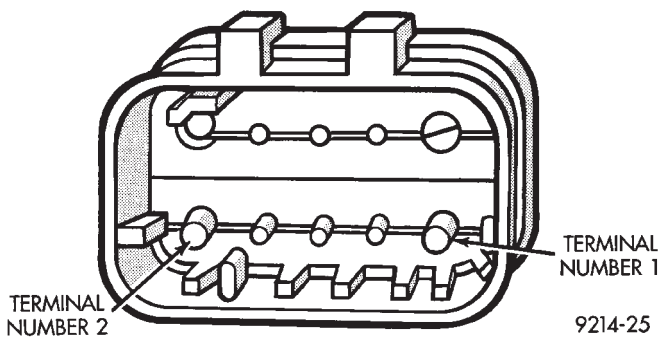

Fig. 3 Injector Harness Connector
- (1) Loosen fuel filler cap to release fuel tank pressure.
- (2) Disconnect injector wiring harness from engine harness (Fig. 3).
- (3) Connect a jumper wire between terminal Number 1 of one injector harness and engine ground.
- (4) Connect a jumper wire to the positive terminal Number 2 of the injector harness and touch the battery positive post for no longer than 5 seconds. This releases system pressure.
- (5) Remove jumper wires.
- (6) Continue fuel system service.